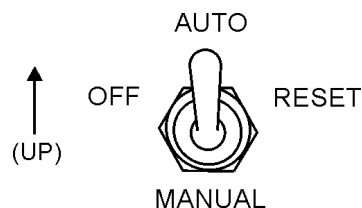

Figure 40. Off/Manual Auto Switch (AUTO)
4. Place the Off/Manual/Auto switch (Figure 40) in the **AUTO** position (up).